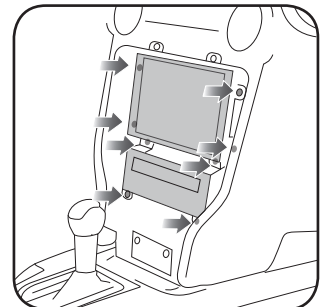

Fig. 1.7
9. Remove four (4) 7mm screws holding the radio. Remove four (4) 7mm screws holding the screen frame. Remove and unplug the OEM screen and radio. (Fig. 1.7)